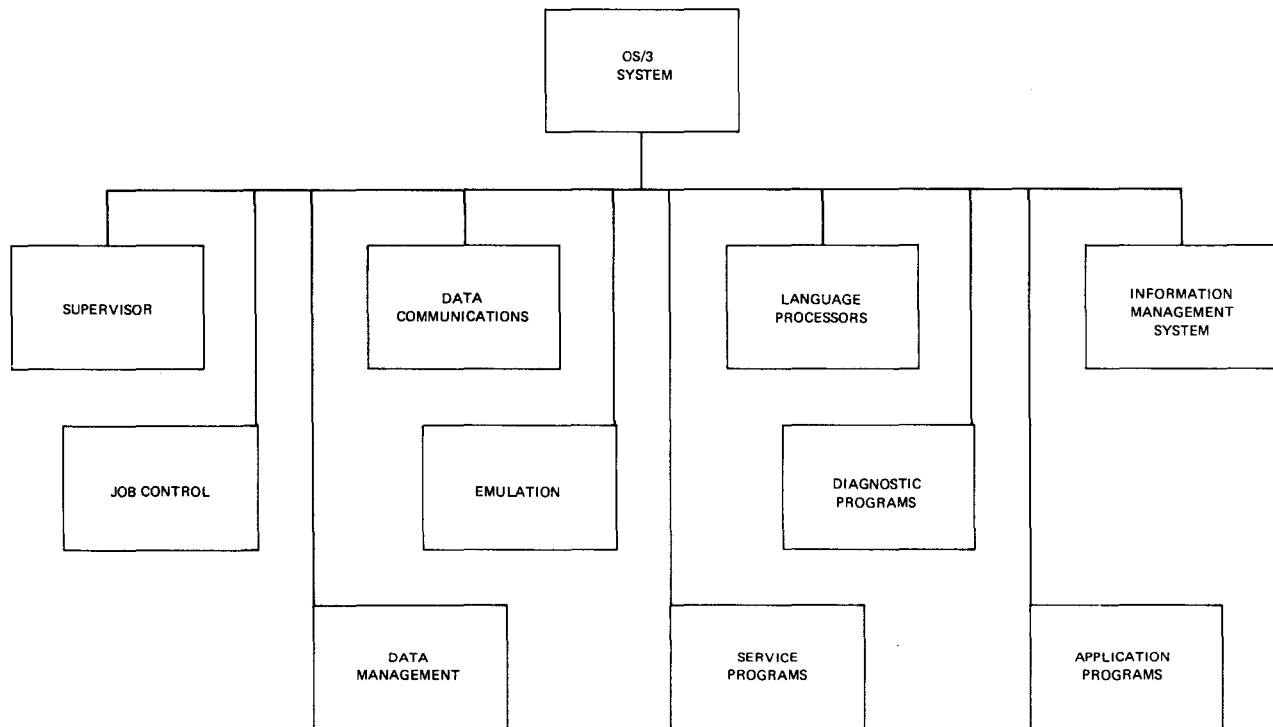

Figure 1—6. Operating System/3 Components
The central hardware of a basic 90/30 or 90/30 B system consists of the processor cabinet and a system console, which is a modified UNISCOPE 100 Display Terminal. The central hardware for a fully expanded 90/30 or 90/30 B system also includes an external storage cabinet, an I/O expansion cabinet, a communications output printer (COP), and the processor cabinet optional features shown in Figures 1—3 and 1—5, respectively. All of the controls and input/output (I/O) channels required to process a job in the system are built into the basic central hardware components. Enhanced system performance is obtained with the addition of the optional features mentioned.
- Operating System/3 (OS/3) is used with the 90/30 and 90/30 B systems. OS/3 (Figure 1—6) is composed of a group of major programs: supervisor, job control, data management, data communications, language processors, service programs, emulators, and diagnostics.